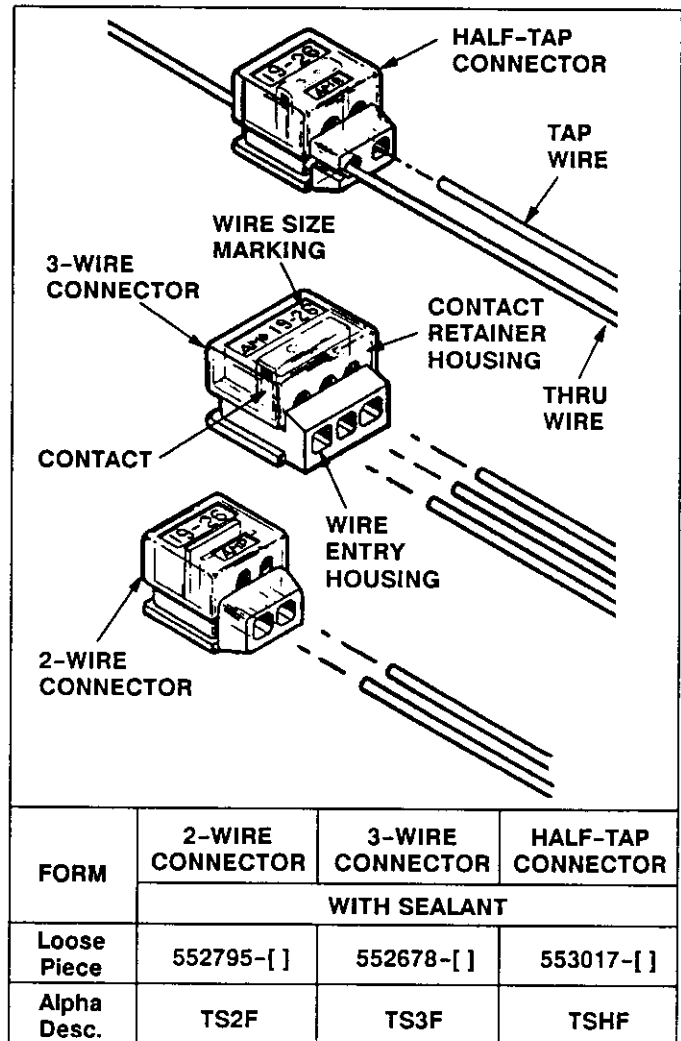

Fig. 1
This Instruction Sheet (IS) covers the application of AMP Tel-Splice Connectors 552795-[ ], 552678-[ ], and 553017-[ ] shown in Figure 1. Read this sheet thoroughly before applying any connectors.
For half-tap connectors, place the through wire into the slot of the connector at the desired tap location. Make sure the through wire is fully contained in the slot. Insert the tap wire into the wire hole until it bottoms in the wire entry housing. See Figure 1.